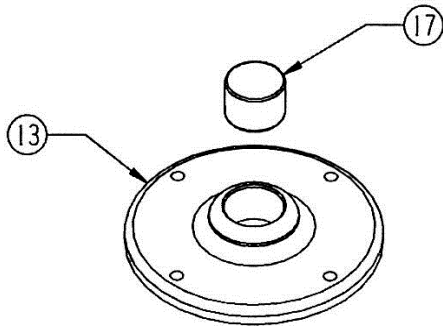

Fig 6: Bearing Installation
(see figure 6)
3) Comm. End Assembly - Ref: figure 6
Apply Loctite RC680 to outer surface of Bearing (#17) and press in flush with outside surface of comm. end (#13). (see figure 6)